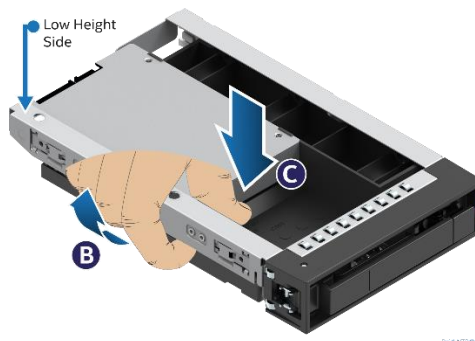

Figure 70. 2.5" Drive Mounting Bracket Removal from Drive Carrier (Step 2)
2. Remove the drive mounting bracket from the drive carrier (see Figure 70)